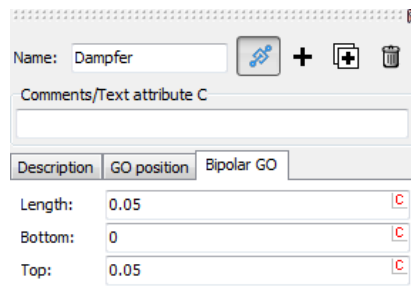

Figure 2.34
4. Click the  button and select parameters of Bipolar GO (Figure 2.34)